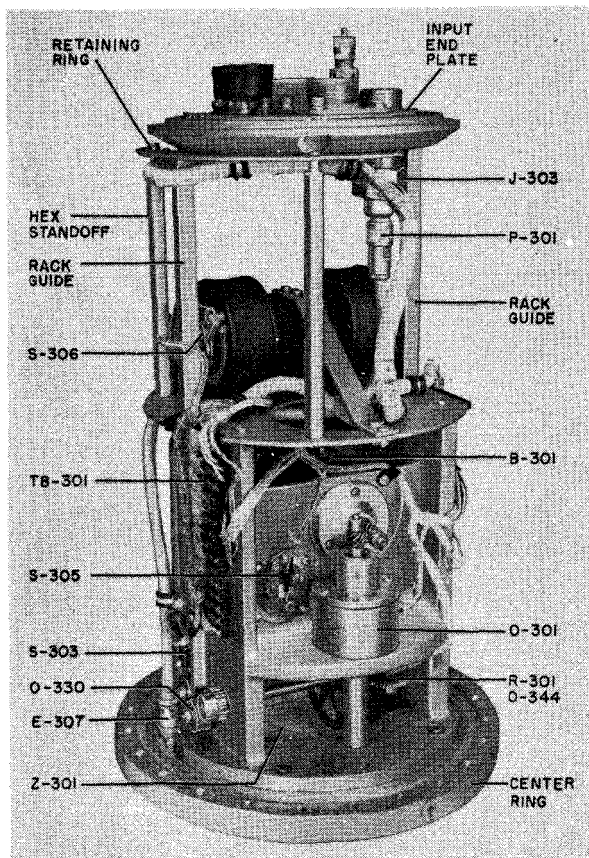

Figure 7-107. R-F Tuner TN-229/SRT, Drive Section, Clutch Side
(a) REMOVAL AND REPAIR.—If the results of the trouble location procedures indicated in paragraph 19a point to a defective component or adjustment in the r-f tuner, the disassembly procedures must be performed in the sequence described. However, in most cases, it will not be necessary to disassemble the unit completely for routine maintenance or replacement of a faulty circuit element. Familiarity with the disassembly procedure will enable the technician to perform the minimum required disassembly to have access to the defective part, since several steps in the procedure may be eliminated. A considerable degree of maintenance may be performed by merely removing the bottom housing from the r-f tuner, which exposes the main drive motor, blower motor, switch drive, clutch-brake assembly, governors, thermostatic switch, terminal boards, position potentiometer, and limit switches (figures 7-107 and 7-108).
Step 4. Bottom housing and unit may be separated by axially removing one from the other. Shock mounts are still mounted on the housing and may be removed at this time, if necessary. At this point, the inner components of the r-f tuner input end are accessible. See figures 7-107 and 7-108.
4. REMOVAL OF COMPONENTS IN DRIVE SECTION.—The major components of the r-f tuner drive section are mounted within a machined casting, figures 7-107 and 7-108.